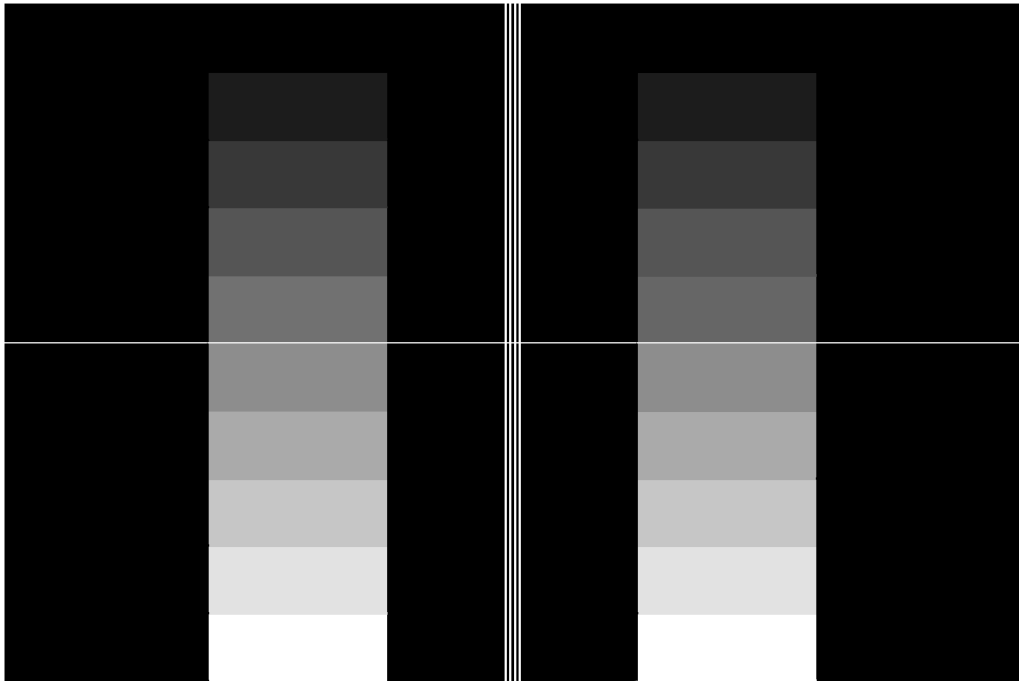

Fig 1
2.1.1 Pattern A (Fig. 1)
Pattern A consists of two, ten level gray scales, at the left and right of center. Additionally the pattern has four vertical "Focus" lines at the center, a border and a single horizontal line at the center. The displayed pattern shown is Figure 1 and the video timing is shown in Figures 3 and 4.
The 6113B is housed in a 1U, 19 inch rack mountable aluminum enclosure, 1.72 inch high and 8 inches deep. (See fig 1). All circuitry is on a single printed wiring board. All internal connections are via mating connectors, no edge connectors are used.
- 5.1.5 Pattern A: Two vertical ten level gray scales at left and at right of center, with black at top and white at bottom. Both gray scales are 128 pixels wide and occupy the full vertical frame. The left scale begins at horizontal pixel 119 and the right scale begins at pixel 375. The pattern includes a one pixel white border and a one pixel horizontal line at the center vertically. Also included are four focus lines occupying the full vertical frame and located at the center horizontally. The focus lines are one pixel wide and one pixel apart. The lines start at horizontal pixel 307. (See Figures 1, 3, and 4)